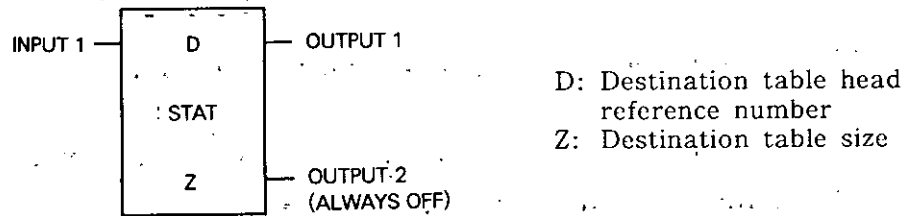

Fig. 5.59 STAT General Form
- Fig. 5.59 shows the form of get controller system status.